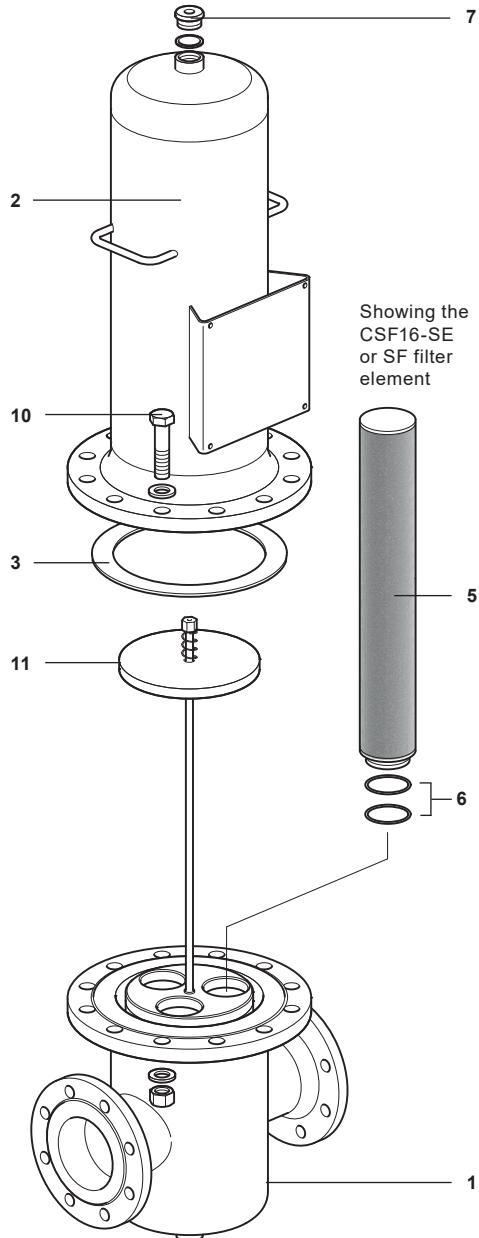

Fig. 8 DN100 and DN150L
2. The housing ring (4) or housing bolts (10) holding together the filter housing head (2) and the filter housing bowl (1) should be unscrewed using the appropriate spanner. The filter housing head (2) can then be removed.
3. The filter element seals (2 off, item 6) should then be lubricated using a lubricant suitable for the application, before fitting to the filter housing bowl (1).
4. The filter element (5 - please note that there are multiple elements for the larger sizes) needs to be gently pushed into the filter housing bowl (1).
5. **When multiple elements are fitted**, the filter support assembly (11) must be assembled and fitted as shown in Fig. 8.
6. Ensure the filter housing seal (3) is fitted.
7. **For sizes DN8 to DN80:** The housing ring (4) should then be carefully placed into the seating land on the filter housing head (2), before then gently lowering the filter housing bowl (1) over the filter element and tightening the housing ring (4). The housing ring (4) is designed with a coarse thread to minimise the possibility of galling. Thread lubrication is not normally necessary. However, a thread lubricant may be used if required.